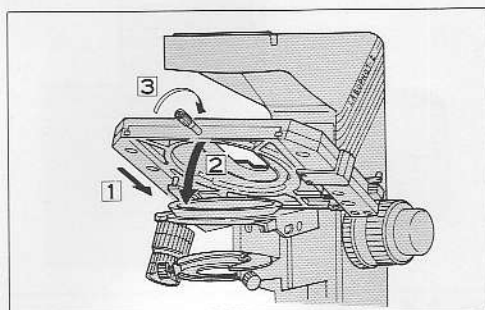

Fig.2-7
⑤ Mounting the Stage
- Insert the stage into the circular dovetail of the stage mount of the substage, ① and ②. Fasten the stage with the stage clamp screw ③ (Fig. 2-7).